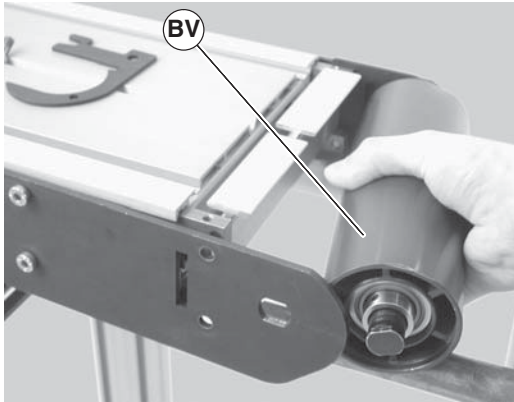

Figure 50
4. Slide the idler pulley assembly (Figure 50, item BV) out of the headplate on the opposite side.